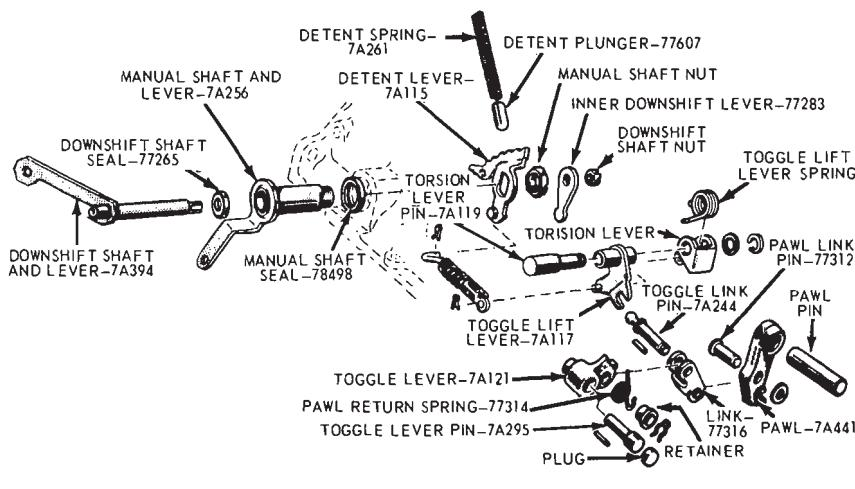

FIG. 53—Transmission Case Control Linkage
1. Remove the inner downshift lever shaft nut (Fig. 53). Then remove the inner downshift lever.
pawl return spring. Assemble the toggle lever to the link with the toggle link pin. Position the pawl return spring over the toggle link pin, and secure it in place with the washer and the small retainer clip (Fig. 53). Install the assembly in the transmission case by installing the pawl pin and the toggle lever pin. Install the torsion lever assembly. Position the spring on the torsion lever with a screwdriver. Make certain that the short side of toggle does not extend beyond the largest diameter of the ball or the toggle lever pin (Fig. 53). Tap the toggle lever in or out as necessary to center the toggle lever on the ball.